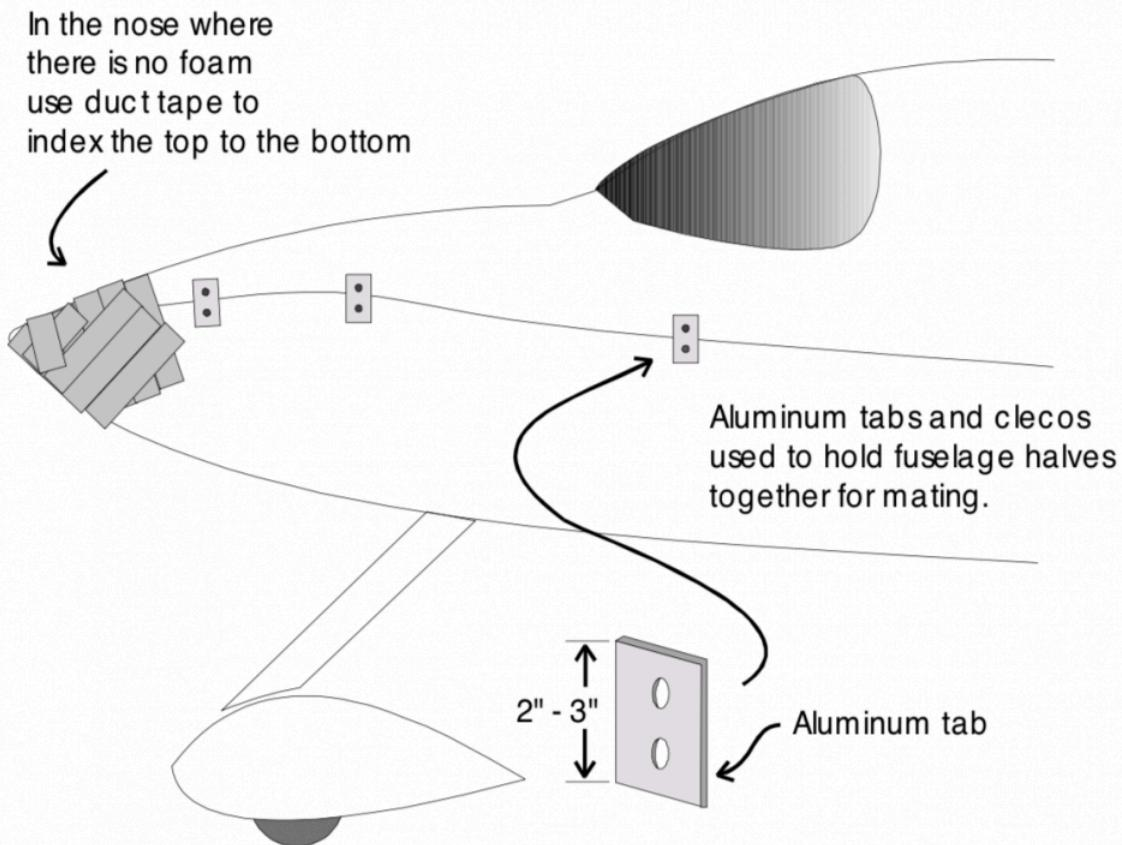

Figure 5-7. Upper Fuselage Half Installation
___ To align the top with the bottom we use aluminum tabs every 6" around the perimeter of the fuselage. Before we start we drill two 1/8" holes in the tabs as shown in figure 5-7.
- ___ In the nose where there is no core and the gap is wide, cover the **outside** with duct tape and glass across the tape from the **inside** onto the upper and lower fuselage with 3 layers of **BID** (Figure 5-7).